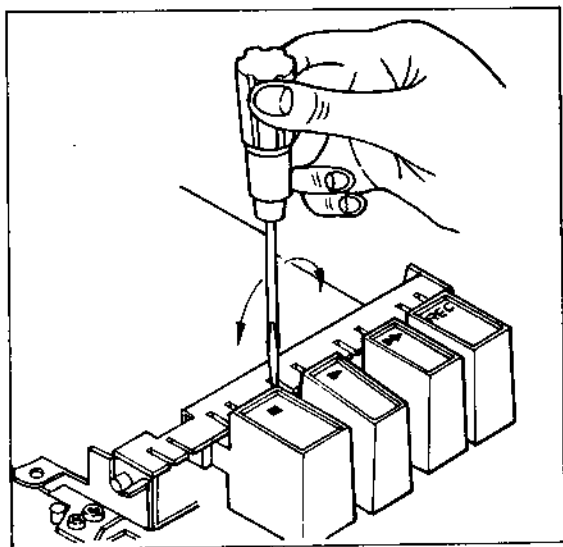

Fig. 3-1 Push-button height adjustment
2. Push-button height can be adjusted by bending the tab on the push-button mechanism with a screwdriver. See Fig. 3-1.